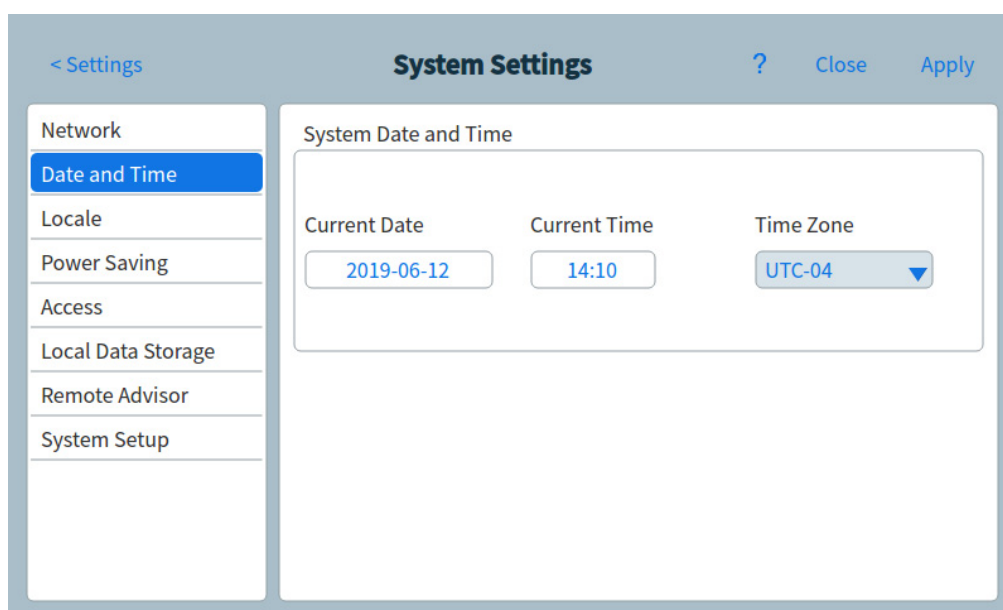

Figure 45 System Settings page
- 1 From the System Settings page, press the **Date and Time** page selection button. The Date and Time page appears. See Figure 45.